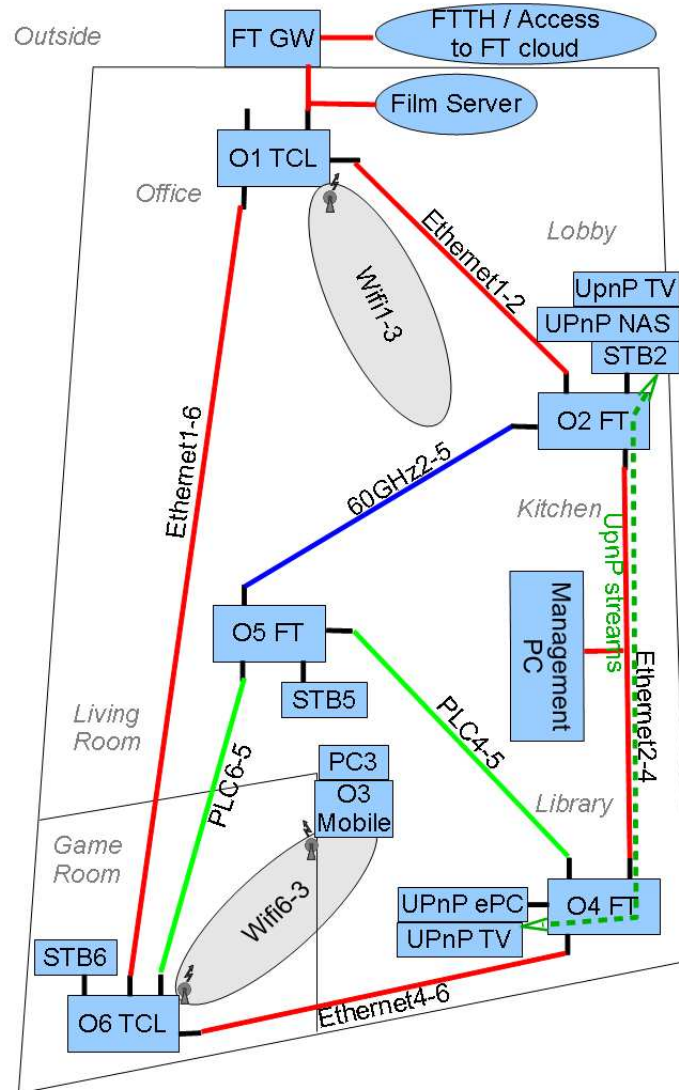

Figure 3: UPNP streams in Omega scenarios
- o UPnP streams between O2 and O4 (Figure 3)
In addition to other scenarios, UPnP is demonstrated (cf Figure 3), given UPnP discovery is made manually as UDP streams cannot be duplicated.